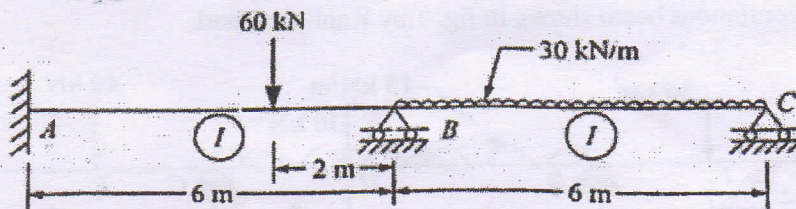

Fig.2
- IV. Analyse the beam ABC shown in fig. 2 by the theorem of three moment and draw the shear force and bending moment diagram.